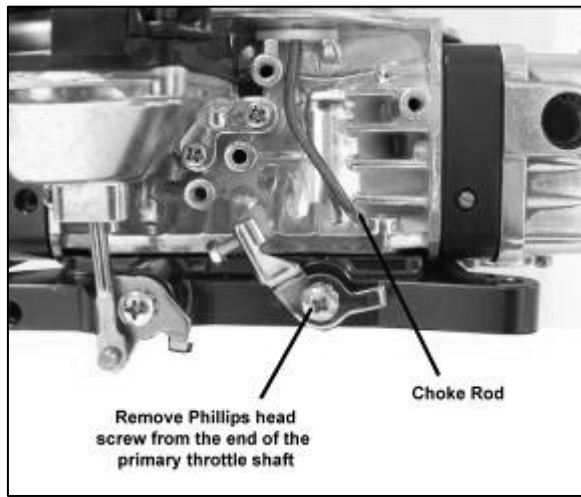

Figure 4
4. Remove the Phillips head screw from the end of the primary throttle shaft as shown in figure 4. Remove the fast idle lever from the primary throttle shaft.